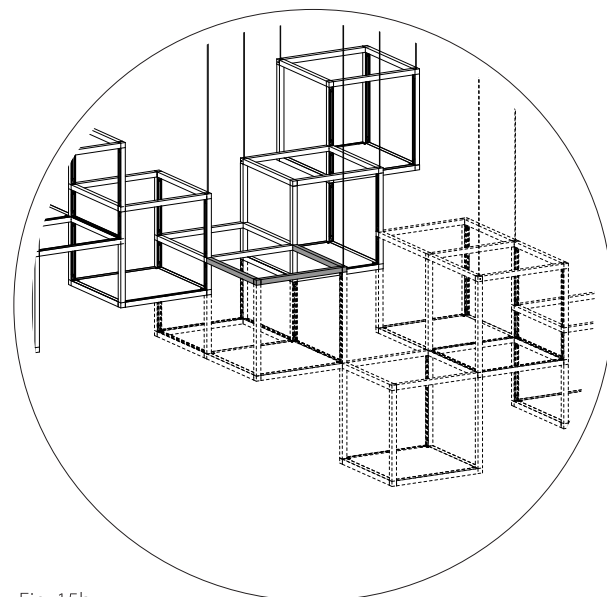

Fig. 15b
- 24c. Section as part of whole assembly shown in Fig. 15b.